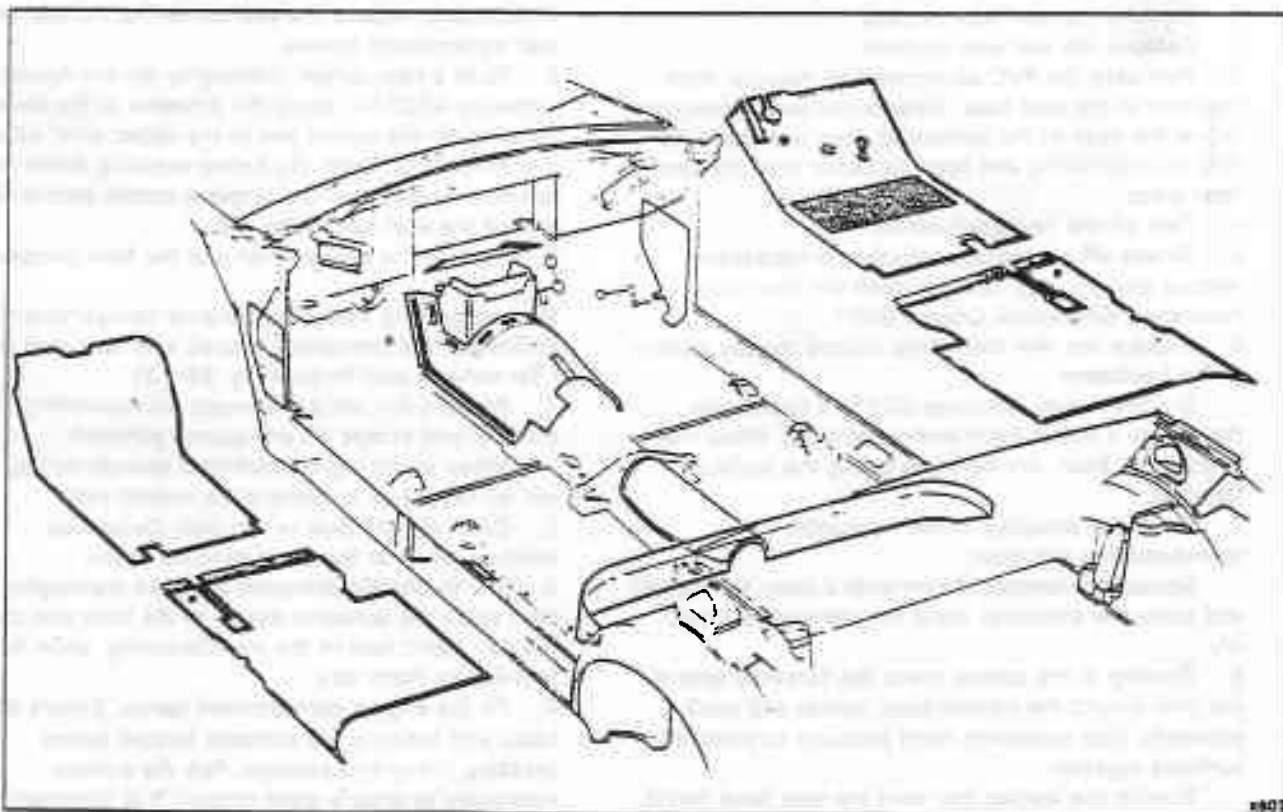

Fig. S8-12 Carpets
1. Release the Velcro strips and stud fasteners securing the carpets to the floor, front transmission tunnel, and side scuttle trim (see fig. S8-12). Remove the carpets storing them in a clean dry area.